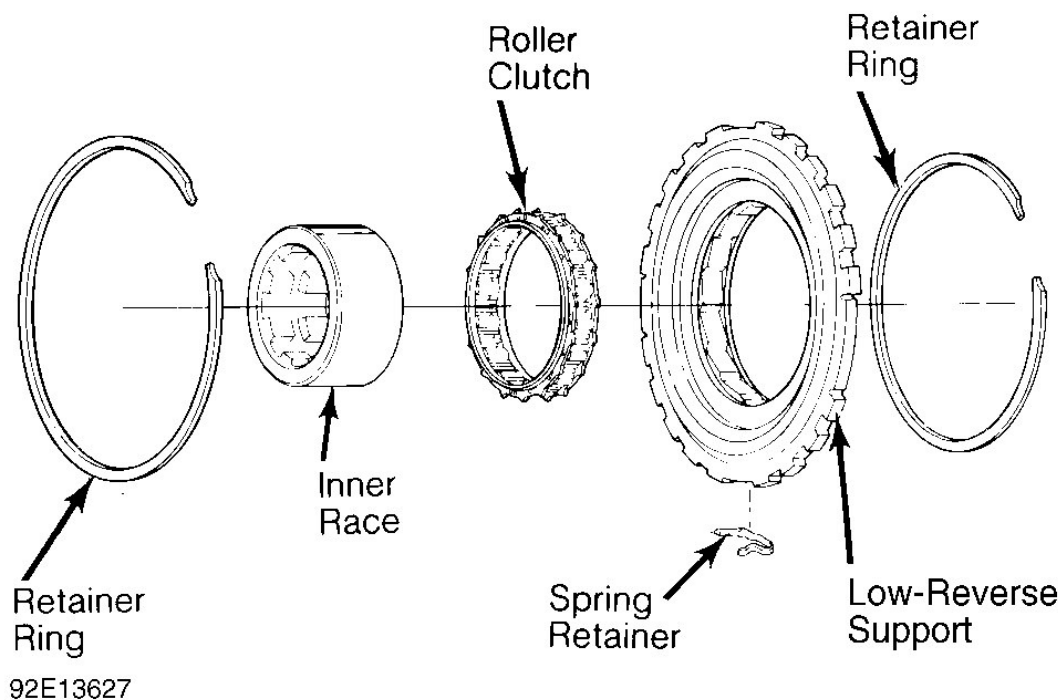

Fig. 29: Exploded View of Low-Reverse Clutch Assembly
Remove inner race and retainer ring. Remove roller clutch assembly. Check inner race for damage and surface finish. See **Fig. 29**. Inspect roller and springs for damage and distortion. Inspect support for loose cam, cracks and damaged surface finish. Replace damaged parts as necessary.
1. Install roller clutch assembly in low-reverse support. See **Fig. 29**. Place support in case with hub facing downward. Install inner race. Rotate inner race while pushing downward. Use care not to damage roller and springs during installation.